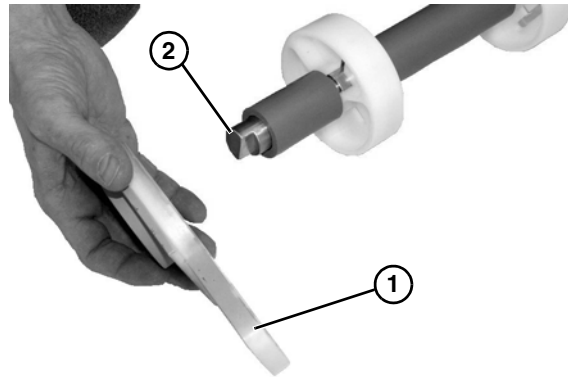

Figure 39
4. Slide off idler head plate (Figure 39, item 1) from shaft (Figure 39, item 2).